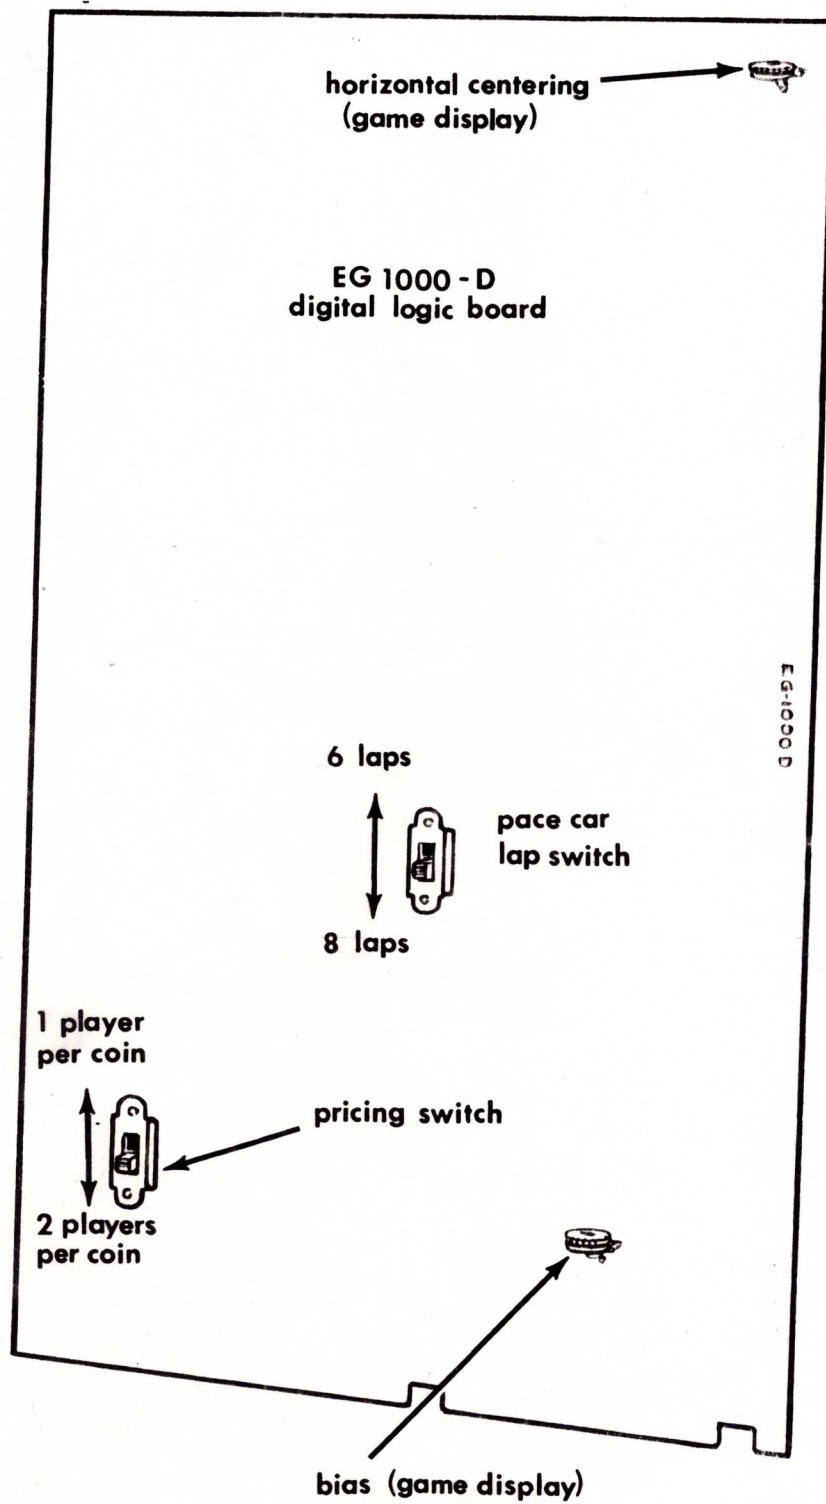

Figure 8
The pricing switch on the EG1000-D digital logic board is shown set for "Two Players per Coin" (see Figure 8). By setting the Pricing Switch to the "One Player per Coin" position, Pricing is automatically changed.
Pace Car laps - The Pace Car may be set-up to complete Six (6) or Eight (8) laps. The Game is shipped set for Six (6) laps. To set for Eight (8) laps, the Pace Car Lap Switch on the EG1000-D Digital Logic Board must be switched to the "Eight" lap position. (See Figure 8.)
Game Display Bias Control - This control is located on EG1000-D Digital Logic Board. (Refer to Figure 8.) Adjusts horizontal and vertical sync input to the TV input. Adjust for best picture.
Game Display Centering - This control is located on EG1000-D Digital Logic Board. (Refer to Figure 8.) Centers the picture on the TV horizontally.
Check EG 1000 D bias control. Refer to Figure 8. Also check EG 1000 D horizontal centering control. If picture is still bad, change EG 1000 D printed circuit board.